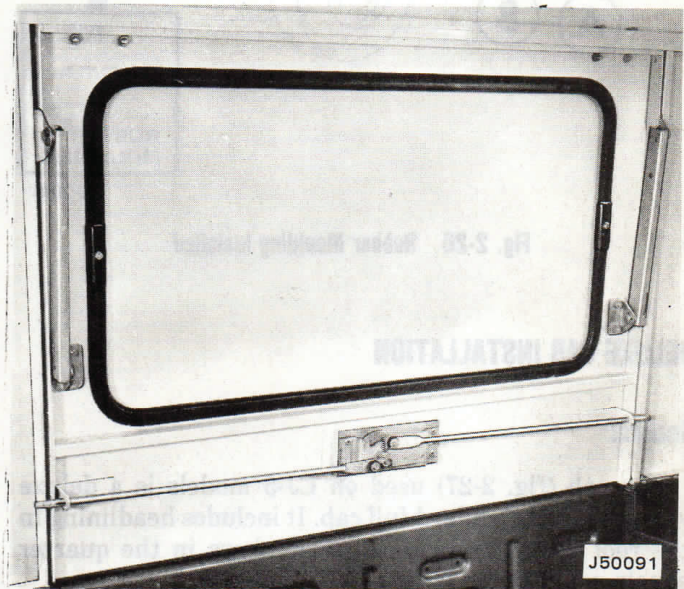

Fig. 2-25 Liftgate Installed—Interior Views
(1) Position liftgate into its opening and secure to hinges with bolts and locknuts (fig. 2-25).
(2) Be sure that hinge assemblies are properly aligned and liftgate is positioned for minimum clearance at top. Tighten screws, bolts, and locknuts.
(3) Attach opposite ends of support arms to quarter panels with screws and locknuts.